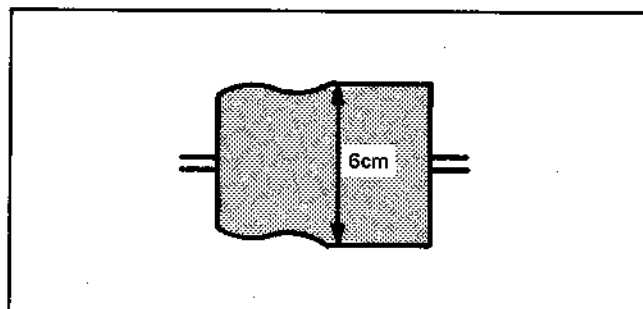

Fig. 1-3
- 5) Adjust oscilloscope V GAIN so that the RF output waveform center portion is 6cm on the oscilloscope. (Fig. 1-3)